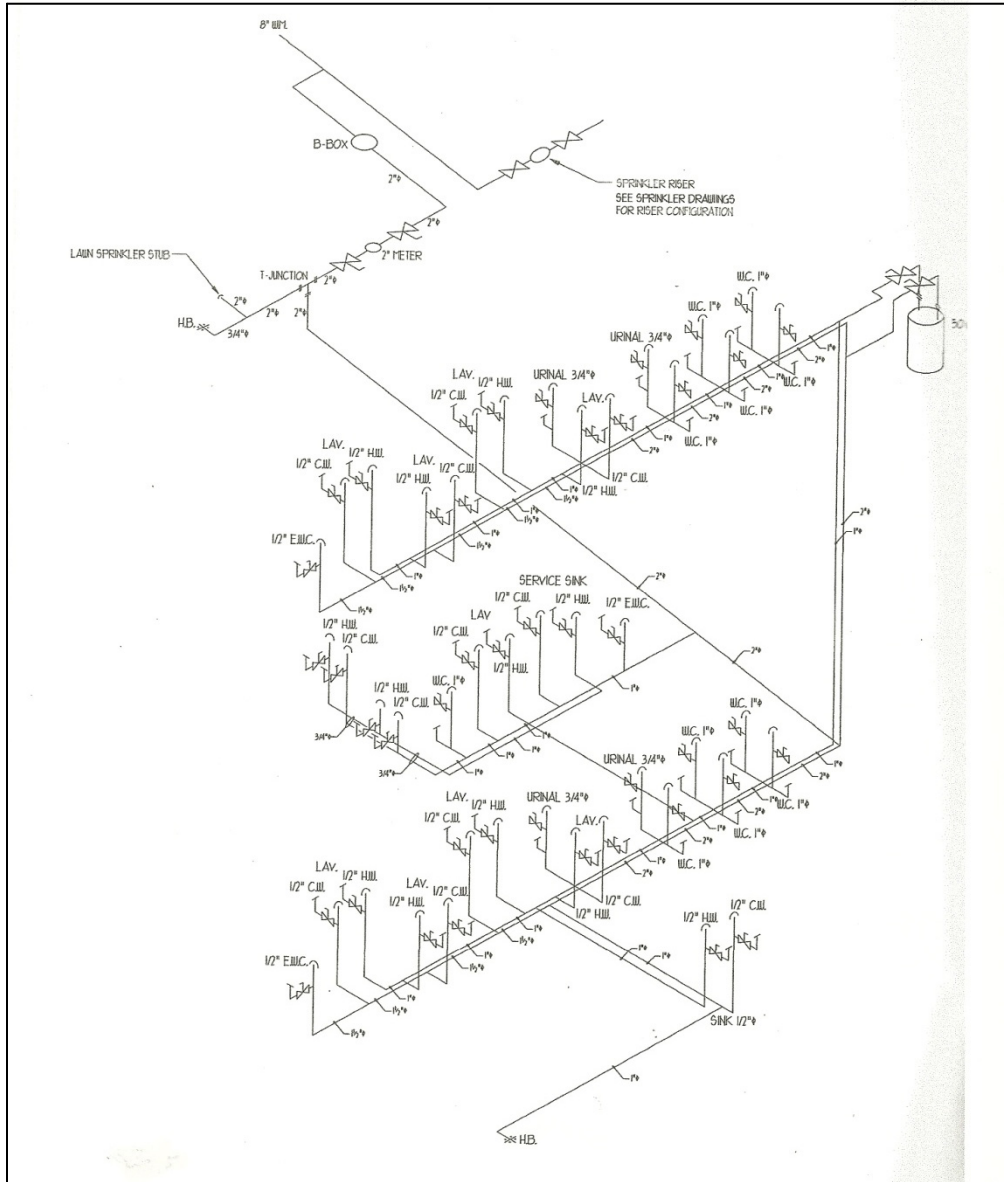

Figure IX.2 Water Distribution System (Isometric View)
**IX.2. Distribution piping materials** – Piping materials used for water distribution include copper, galvanized steel, brass, and plastic. Copper and plastic are the most common. Copper piping should not be embedded in concrete slabs, masonry walls, or footings. When it is necessary for the pipe to go through a slab or a wall, a plastic sleeve or a larger pipe should be placed between the copper water pipe and concrete. This will permit movement due to expansion of the copper. Galvanized steel pipe has great strength and dimensional stability. The galvanized coating protects the pipe against rusting. Brass pipe is used for highly-corrosive water. This type of pipe would be used in situations such as coastal areas where saltwater is used for cooling, baths, or other applications. Plastic pipe is used extensively. Three of the most common types are acrylonitrile butadiene styrene (ABS), polyvinyl chloride (PVC), and polybutylene. Plastic pipes and fittings use solvent-welded joints. Figure IX.2 shows an isometric view of the water distribution system.
**IX.3. Sewage disposal system** – The sewage disposal system is also known as the drain/waste/vent (DWV) system. It includes a vertical soil (waste) stack, a vent, and a trap for each fixture. The waste stack carries the waste water to the building drain, to the building sewer line outside the building, and to the public sewer or septic tank. At the base of each stack, fittings called 'cleanouts' (CO) are installed to provide access to clean out the clogged line with a plumber's rod or tape. Piping can be shown on plan and elevation views, but often an isometric drawing of the system is provided.